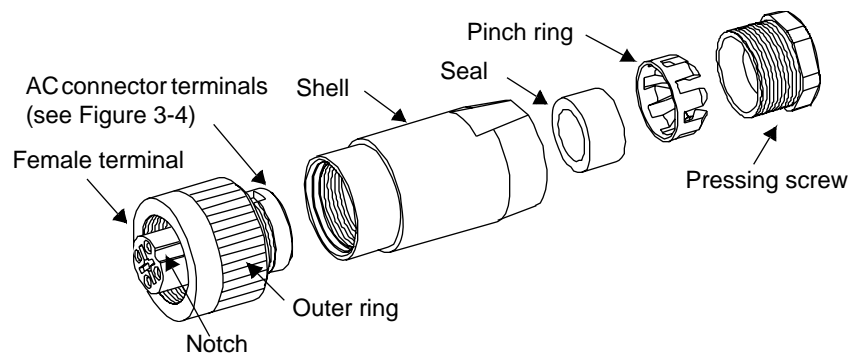

Figure 3-3 AC Connector (female)
2. Unscrew the female terminal from the casing of the female cable connector. See Figure 3-3.